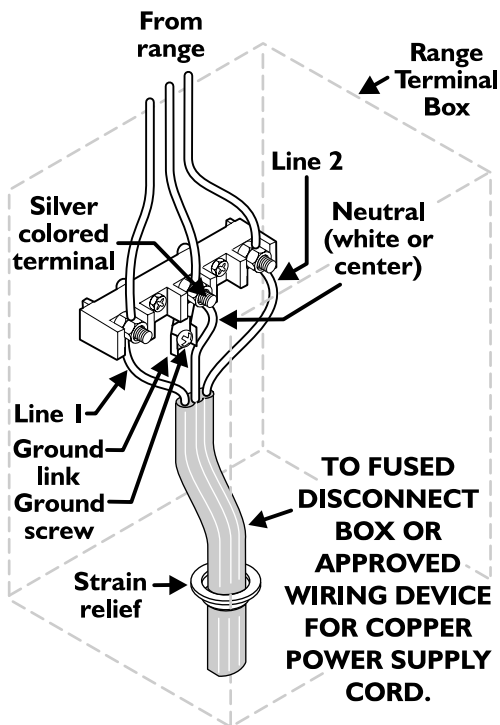
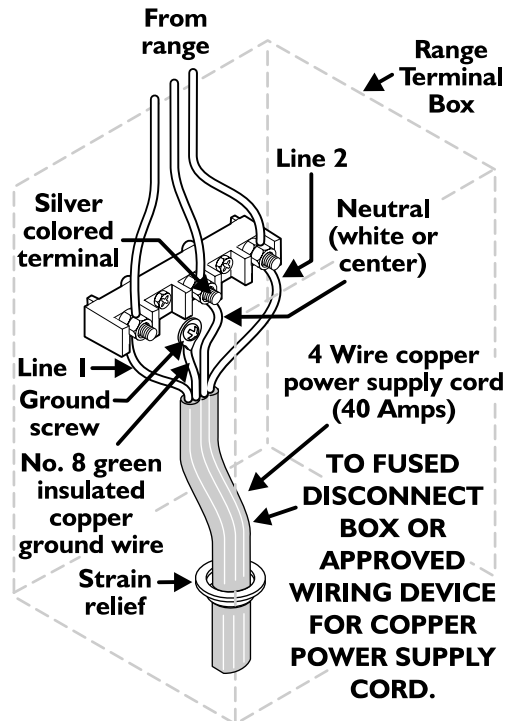

Figure 2
Figure 3
A 1-3/8" knock-out hole is provided at the bottom of the range terminal box for connecting the power supply cord kit to the range terminal block (see Figures 2 and 3).
Insert the residence 3-wire power supply cable through the 1-1/8" hole at the bottom of the range terminal box (see Figure 2). For mobile home application or where connections with a 3-wire power supply cable is not allowed, use a 4-wire power supply cable (for connections, see Figure 3). Use a U.L. approved strain relief clamp to secure the cable to the terminal box.
- C. Connect ground wire (green) of copper power supply cord to frame of appliance with ground screw, using hole in frame where ground strap was removed (see Figure 3).